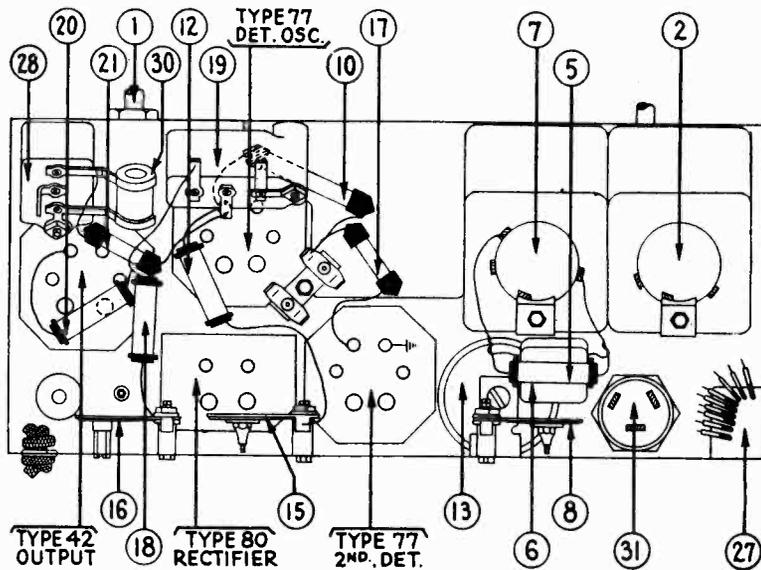

Fig. 4—Base View
*Does not show in Fig. 4.
(1)—I. F. (Intermediate Frequency)—Remove grid clip from cap on 6A7 tube and connect antenna lead from signal generator to cap of tube. Connect ground lead to ground post on set. Turn on set and signal generator; set wave switch of latter to 460 K. C. (the I. F. of Model 66) and dial of set at 540, wave band switch to left. Adjust each of the four I. F. compensating condensers (17), (19), (22) and (24) in turn so that maximum reading is obtained in the output meter. If the meter reading goes off scale, adjust the attenuator on the signal generator so as to get a lower reading. These I. F. condensers (visible in Fig. 4) are adjusted by inserting the
(2)—WAVE TRAP—Replace grid clip on cap of 6A7 tube and connect antenna lead from signal generator to antenna post on set. Set signal generator at 460 K. C. and adjust wave trap (1) so as to get MINIMUM reading in output meter.
(3)—ANT. and OSC. H. F.—These adjustments (2) and (11) are located on top of the tuning condenser assembly at right (facing front of set) and adjusted from above. The "ANT" (2) is nearest front of set. Set signal generator at 1700 and dial of set at 1700 and adjust these two condensers to get maximum output meter reading.
(4)—OSC. L. F.—This condenser (13) is located underneath chassis (see Fig. 4) and is reached from underneath. Set dial of set and signal generator switch at 600, and adjust for maximum reading.